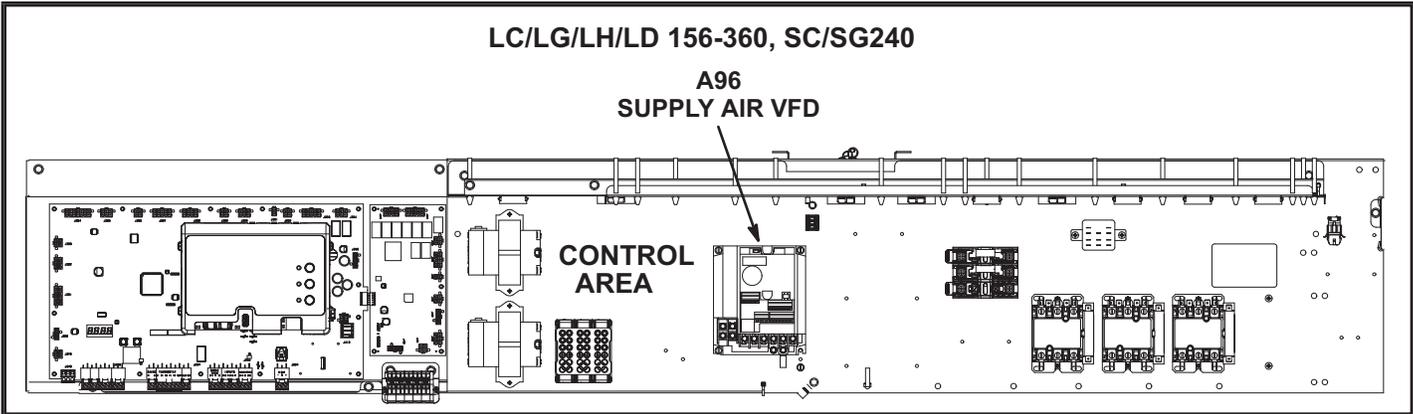

FIGURE 6
- 1 - Disconnect all power to unit and **WAIT AT LEAST 10 MINUTES** before opening the VFD cover. See FIGURE 1 through FIGURE 6 for location.